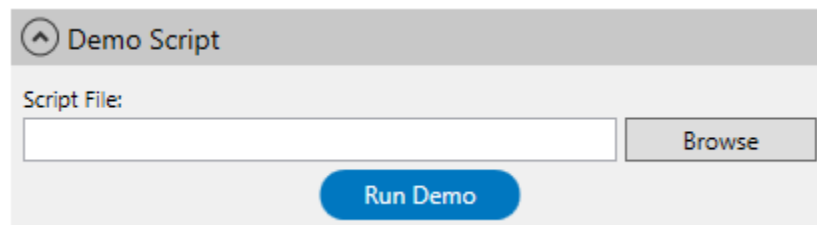

Figure 2-98: Demo Script Section
1. In the **Demo Script** section, select **Browse** (see Figure 2-98). See Demo Scripts on page 186 for detailed descriptions of all items.